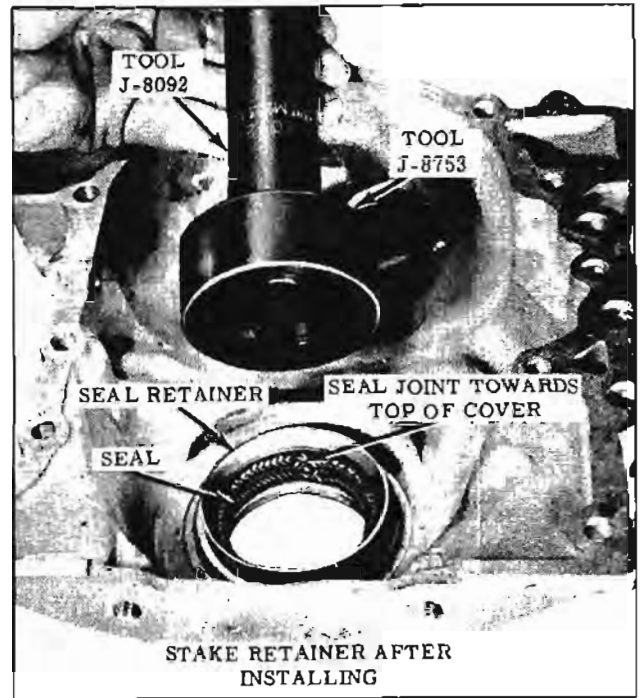

Fig. 8-142 Installing Front Seal
3. Place seal and retainer in cover with seal joint towards top of cover, and install with Tool J-8753 until seated. Stake retainer securely. (Fig. 8-142)